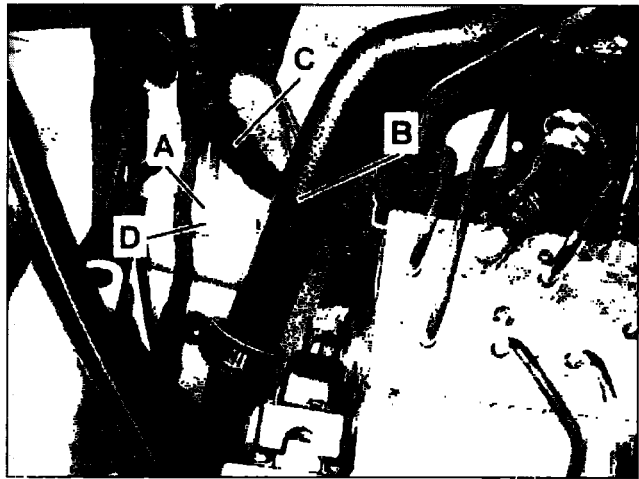

Figure 21
- Ring connector (A, Figure 21) **must** be positioned as shown to avoid contact with water hose (B) and chafing the wire harness (C).
- This ground terminal (D) is to be used **only** for mounting the SBC ground wire.